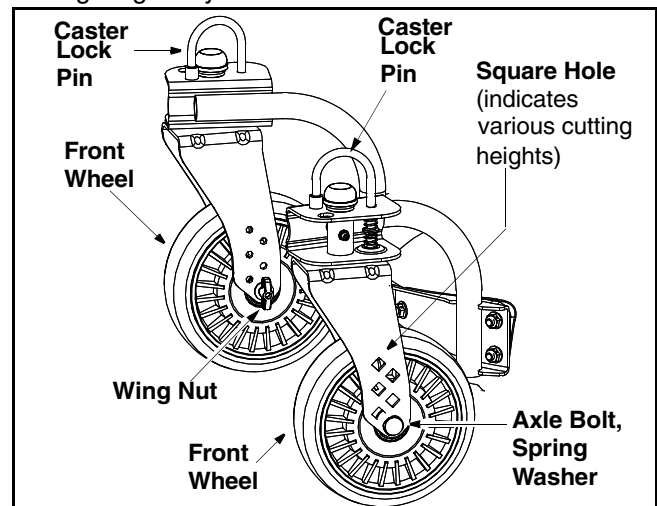

Figure 11
- Remove the wing nut from the axle bolt. See Figure 11. Slide the axle bolt and spring washer from the assembly and select a cutting height.
The casters can be locked in a straight ahead position or position to swivel freely. See Figure 11.